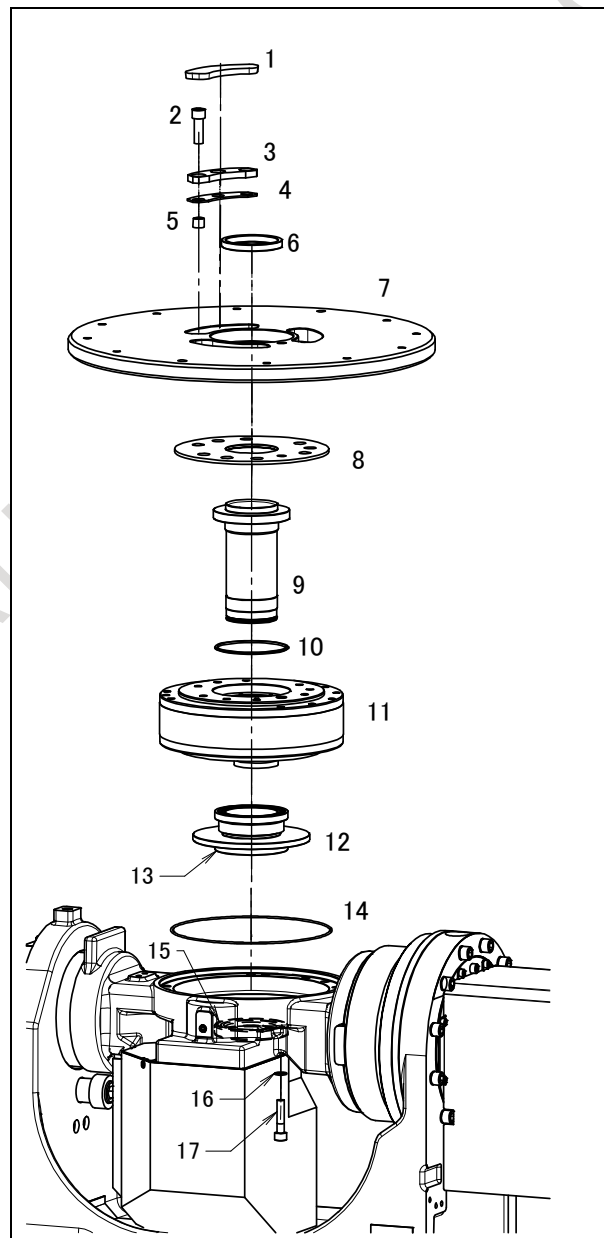

Fig. 6.4 (a) Replacement of the J2-axis reducer
- 4 Remove the cover (1) (see Fig. 6.4 (a)).
- 5 Remove bolts (2), washer plates (3), insulators (4), and then remove the remaining parts in the order in which they are overlaid.
- 6 Remove the bolts (17) and washers (16), the J2-axis reducer (11), the gear (12) and the bearing (13).
- At this time, replace the O-ring (14) with a new one and attach it to the prescribed position.